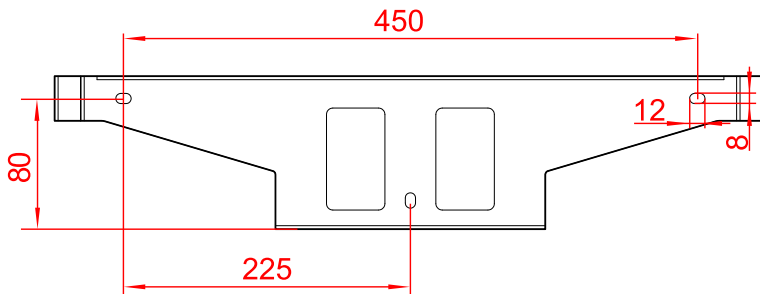
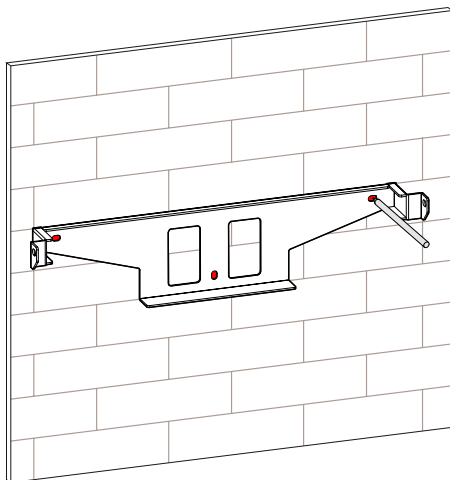

Figure3-7 Installation size (unit: mm)
Figure3-8 Mark the drilling position
Step 2 Mark the position of installation holes on the wall according to the dimensions of the fixing holes of the installation holder (as shown in Figure3-7), and drill three holes of $\Phi 10.5\text{mm}$ on the wall according to marked position, as shown in Figure3-8.